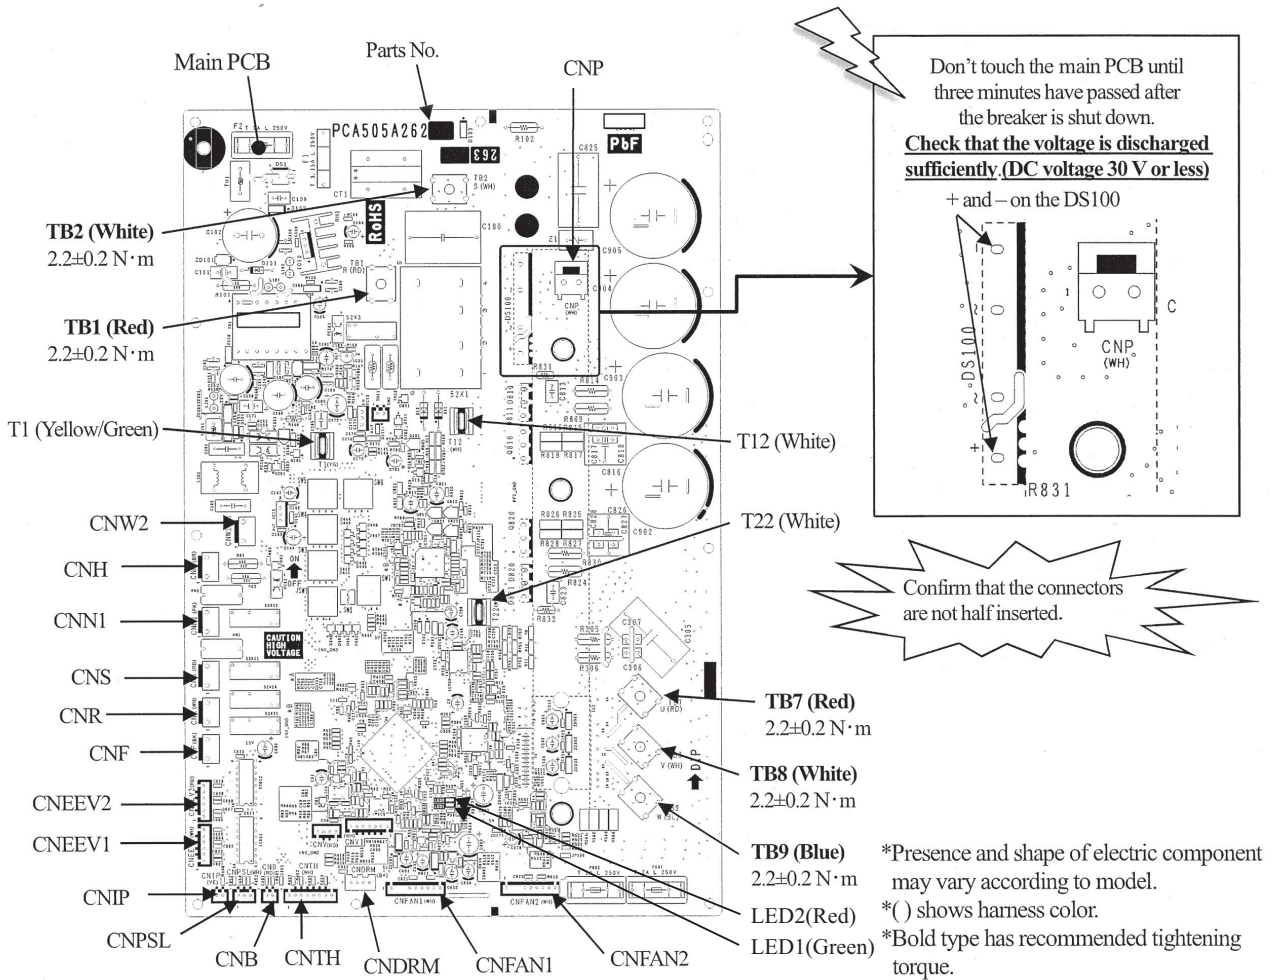

Fig.2 Parts arrangement view of main PCB and voltage measurement points
- c) Disconnect the connectors, faston terminals and round terminals from the main PCB as shown in Fig.2.